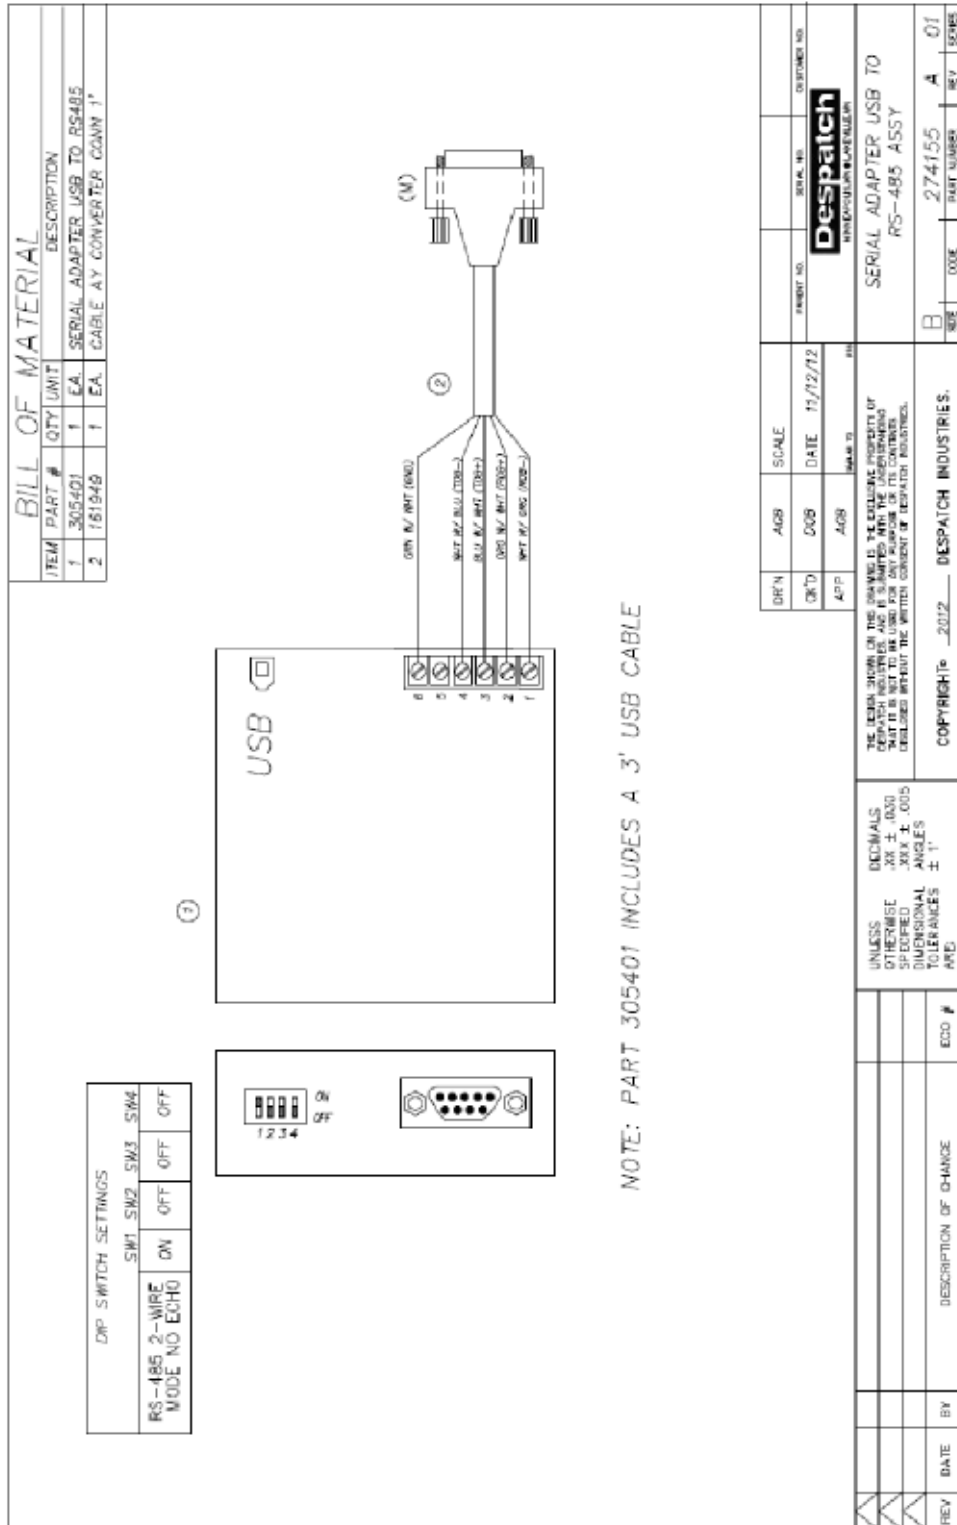

Figure 25. USB Converter Schematic.
- Review schematics for USB converter (Figure 25)